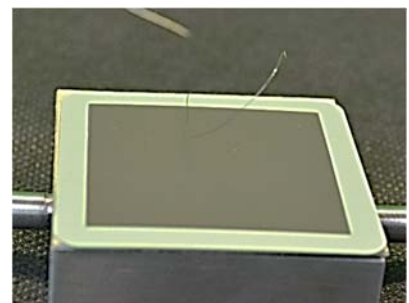

Figure 15
- Bend a small hook into the remaining platinum voltage wire and place it in the middle of the painted cathode active area (Figure 15). Ensure that you do not place the cathode voltage wire directly on top of the anode voltage wire – these must not be in contact during testing.